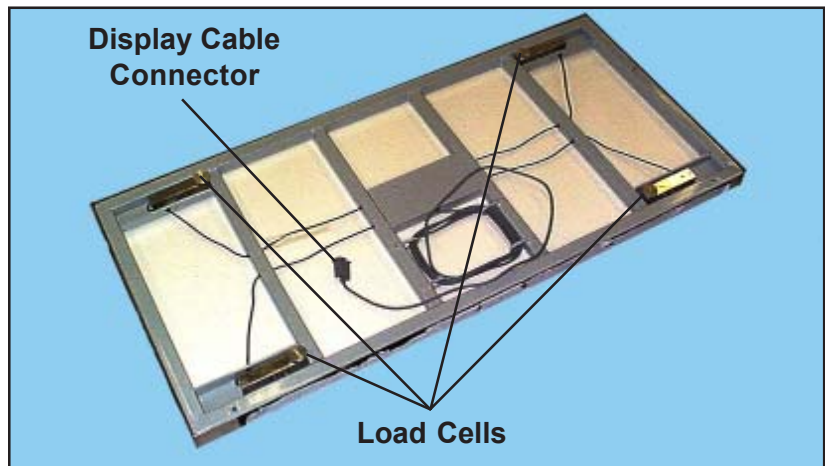

Figure 20. Underside of Electronic Scale Platform Showing Load Cells and Display Cable Connector
4. Unwrap the display console cable from the hooks under the scale platform (Figure 20).
5. Place the electronic scale platform on the unit so that the load cells under the scale line up with the mounting holes on the unit frame (Figures 20, 21, and 22). Make sure that all four load cells rest on the frame arms and that the scale is stable and does not rock. **Note:** The display cable should exit to the rear to facilitate routing to the display console.